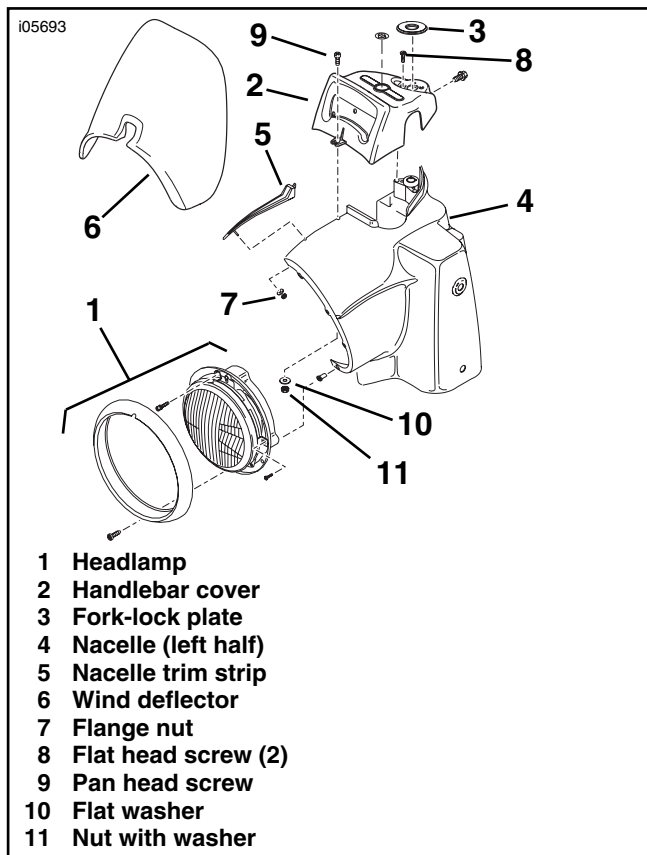

Figure 10. Nacelle, Headlamp, and Handlebar Cover (FLHRS Model)
4. See Figure 10. Carefully pry off the fork-lock label plate (3) from the handlebar cover (2). Remove the entire plastic plate; do not remove the adhesive label from the plate.
5. Remove and retain the two flat head Pozidriv® screws (8) underneath the fork-lock label plate.
6. Loosen, but do not remove the pan head Pozidriv® screw (9), nut (11) and flat washer (10) holding the front of the handlebar cover (2) and wind deflector (6) assembly.